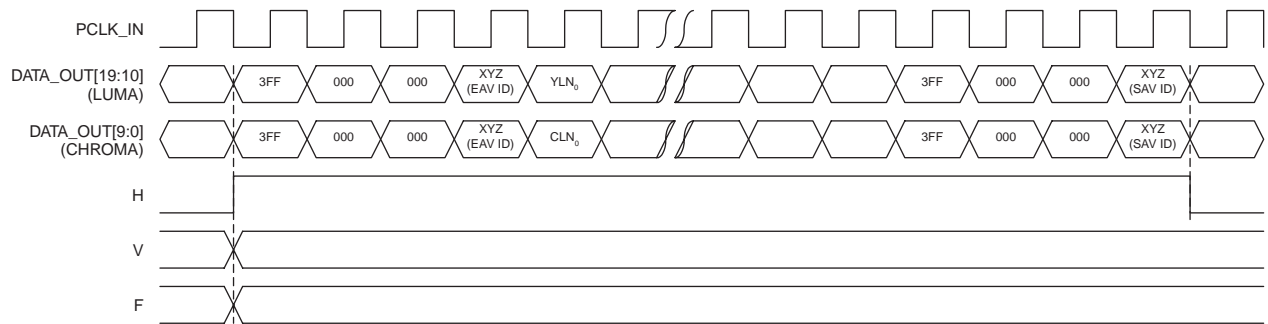
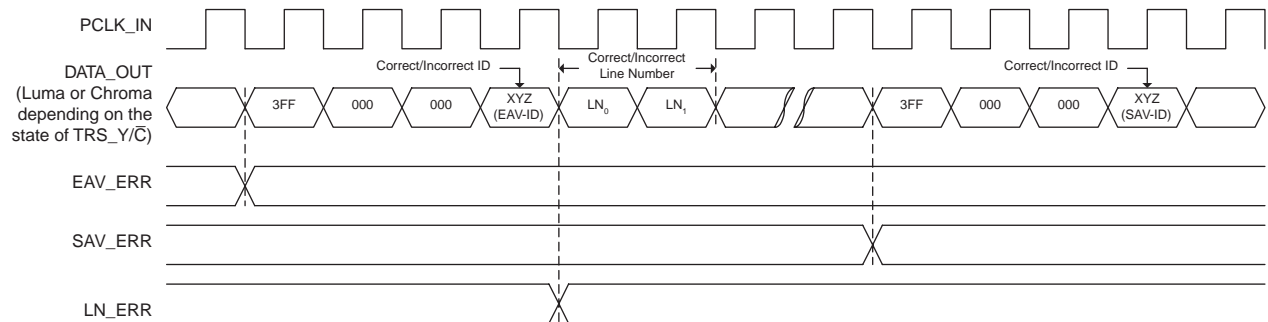

Fig. 2 HVF Timing
Fig. 3 EAV_ERR, SAV_ERR and LN_ERR Timing
The flywheel logic will check the incoming video data for valid video lines. If the incoming data represents a valid line, the flywheel remains in sync with the incoming data. If the incoming data represents an invalid line, the flywheel will use the stored timing information for the past valid line to generate the output HVF timing signals until three (3) consecutive lines having identical timing are detected. In this case, the new timing information will be saved and the flywheel operation is updated to this new timing. Mismatches between the HVF information decoded from the data stream and that indicated by the flywheel will trigger the EAV_ERR and SAV_ERR signals as shown in Figure 3. HVF output timing is shown in Figure 2.